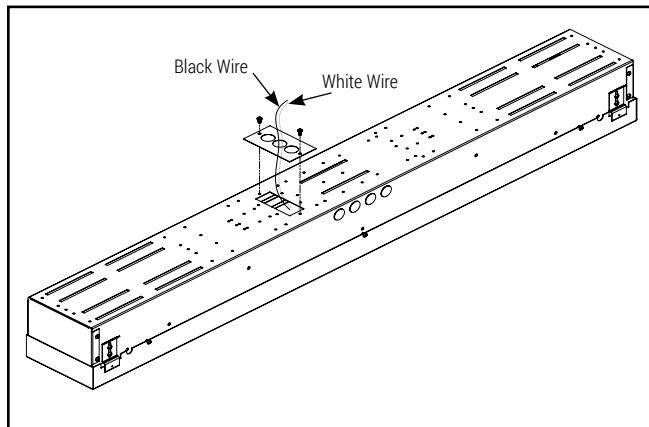

Figure 3.
2. Use 0.875 Knockout in access plate, Bring in the power supply switch. (Figure 3)